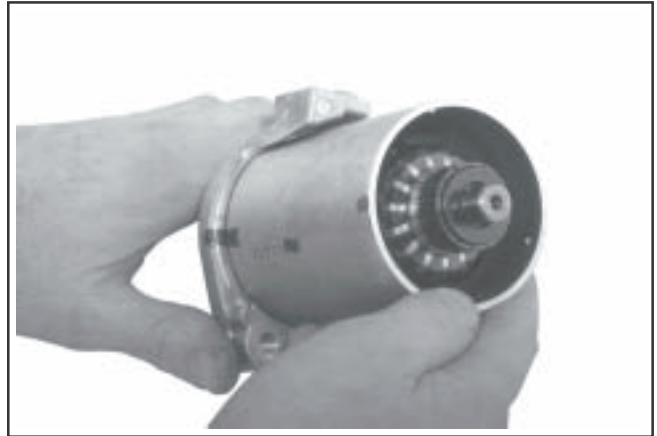

Figure 8-50. Installing Frame.
3. Install the starter frame (magnet end first) over the armature, aligning the scribed marks made earlier. See Figure 8-50.